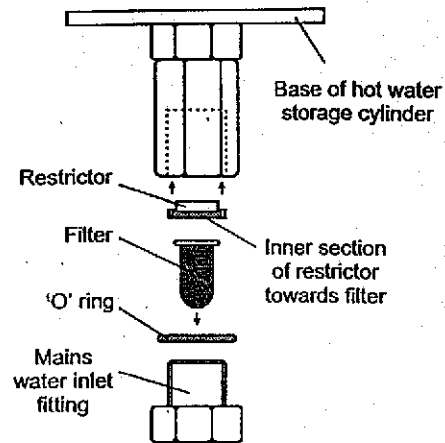

Fig. 22
The mains water supply to the boiler has two filters, one is positioned in the bottom connection point to the hot water storage cylinder (item 5 in section 13.4), the other is in the pressure reducing valve in the supply external to the boiler (see Fig. 22).
Note: The filter must be fitted with the closed end facing into the water inlet connecting nut (see Fig. 22).
Note: The restrictor must be fitted with the inner section facing down towards the filter (see Fig. 22).